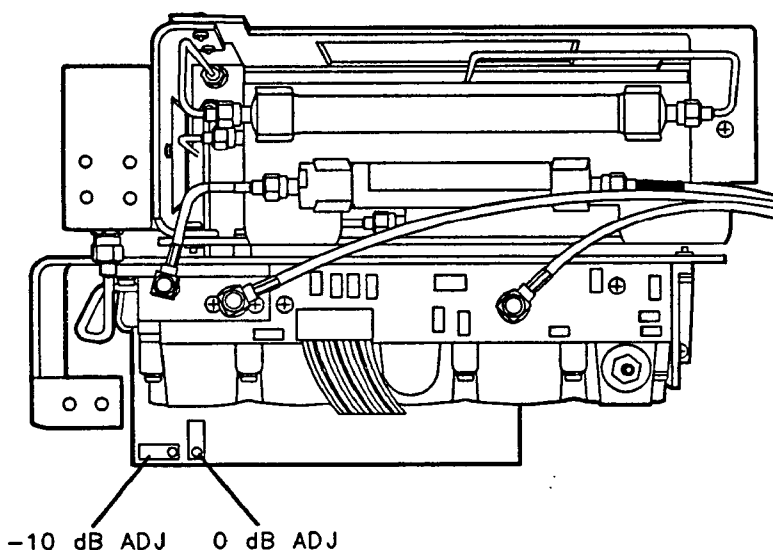

Figure 2-4. BITG Power Level Adjustment Locations
8. On the spectrum analyzer, press **SRC PWR ON OFF** (ON), 0, **dBm**, **SGL SWP**.
9. Adjust **-10 dB ADJ** (A3A15R13) for a 0 dBm ± 0.05 dB reading on the measuring receiver. Refer to Figure 2-4 for adjustment location.
11. With the SRC PWR level set to -10 dBm , adjust -10 dB ADJ (A3A15R13) for a $-10 \text{ dBm} \pm 0.1 \text{ dB}$ reading on the measuring receiver. Refer to Figure 2-4 for adjustment location.
12. Set the SRC PWR level to 0 dBm . Adjust 0 dB ADJ (A3A15R18) for a $0 \text{ dBm} \pm 0.2 \text{ dB}$ reading on the measuring receiver. Refer to Figure 2-4 for adjustment location.